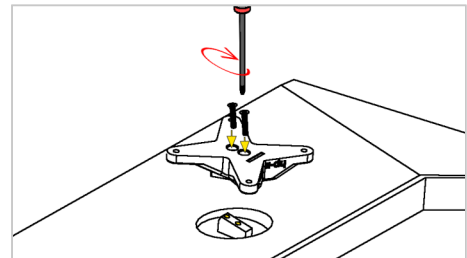

Figure 2
**Important!** Note the correct alignment (top and bottom) of the VESA adapter. The straight line on the VESA adapter, which is located below the screw holes, should point towards the floor / bottom. (Figure 2)